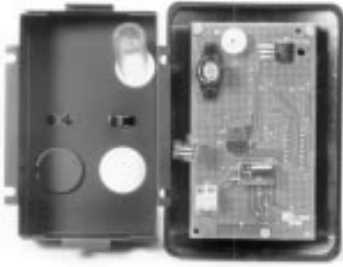

Figure 3:
Installation of the AIRGARD 200 monitor generally requires the fume hood to have a cut out section as shown in Figure 3.
Step 3: Snap in the snap bushing supplied onto the hole used for the power connection in the rear enclosure and mount in the cut out on the fascia with 4 screws supplied. See Figure 3.